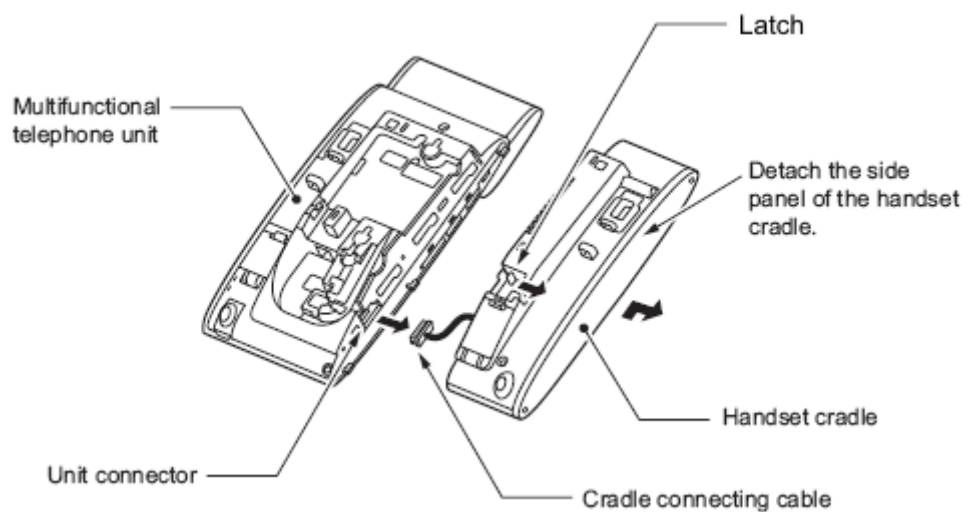

Figure 5-135 Detach Cradle from Multiline Terminal
9. Push the latch to the right to unlock the cradle unit. Then push the cradle unit forward to separate it from the terminal body (see Figure 5-135 Detach Cradle from Multiline Terminal).